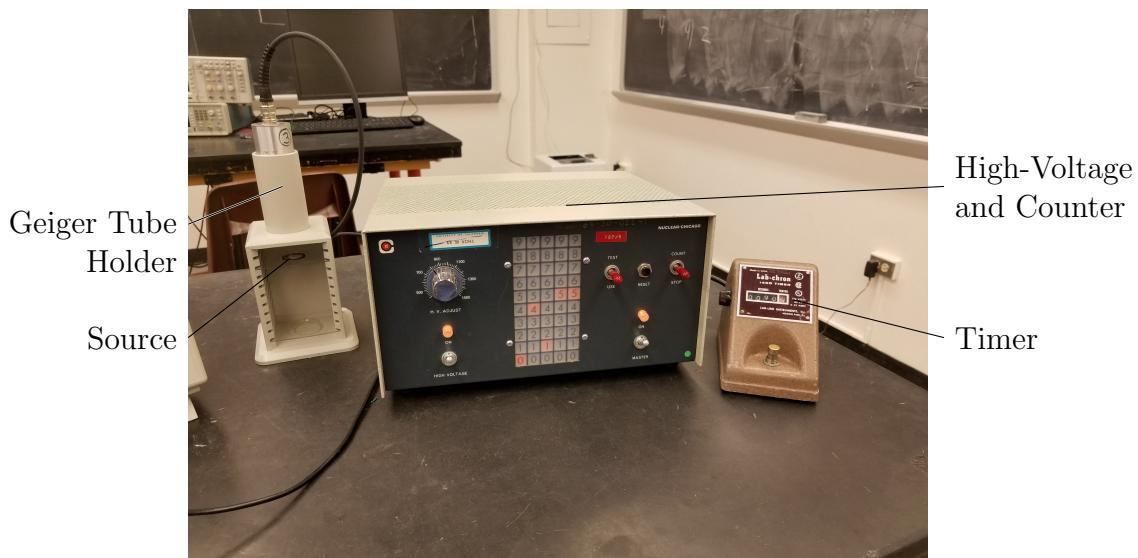

Figure 8.2: The Geiger Counter assembly.
To begin, familiarize yourself with the counter and timer features of your Geiger counter assembly using the built-in test mode. Your lab bench will already be prepared with a Geiger Counter assembly as shown in Fig. 8.2. Ensure that the high-voltage (HV) is off by turning the knob labeled “H.V. Adjust” counter-clockwise all the way to zero. Now put the Geiger counter into test mode by flipping the left red switch to “TEST”. Flip the right red switch to “COUNT” and you should see the counter display begin incrementing. Push the button on the front of your timer and you should see the Timer turn on and off. Leave the timer incrementing. Now flip right red switch to “STOP”, and observe that the both the counter and the timer stop simultaneously. The knob on left side of the old-school lab timer can be used to reset the time. Keep turning the knob clockwise until the time reads 0. Use the black button on the Counter to reset the count to zero.